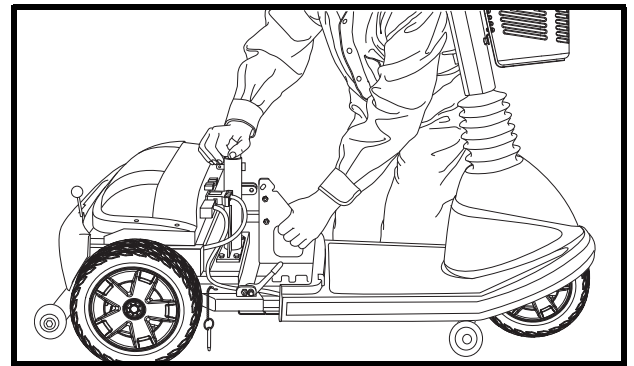

Figure 25. Frame Separation
10. Gently slide the two sections of the scooter apart. See figure 25.